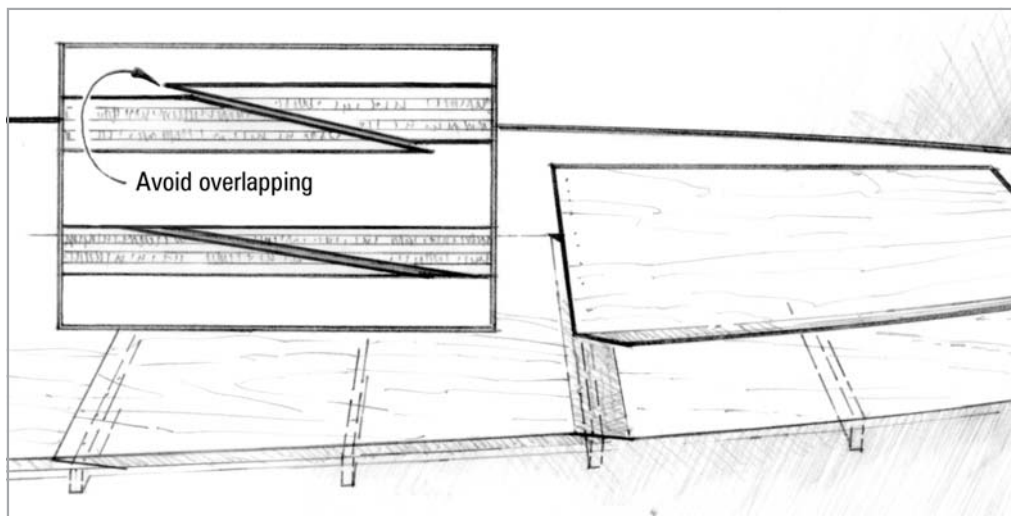

Figure 5-14 Plan the panel layout so that scarf joints will fall over beams for better clamping.
1. Prepare plywood panels, scarf joints and beam surfaces. Plan the panel layout and order of assembly so that the scarf on the following sheet lies *over* the scarf on the previous sheet (*Figure 5-14*).